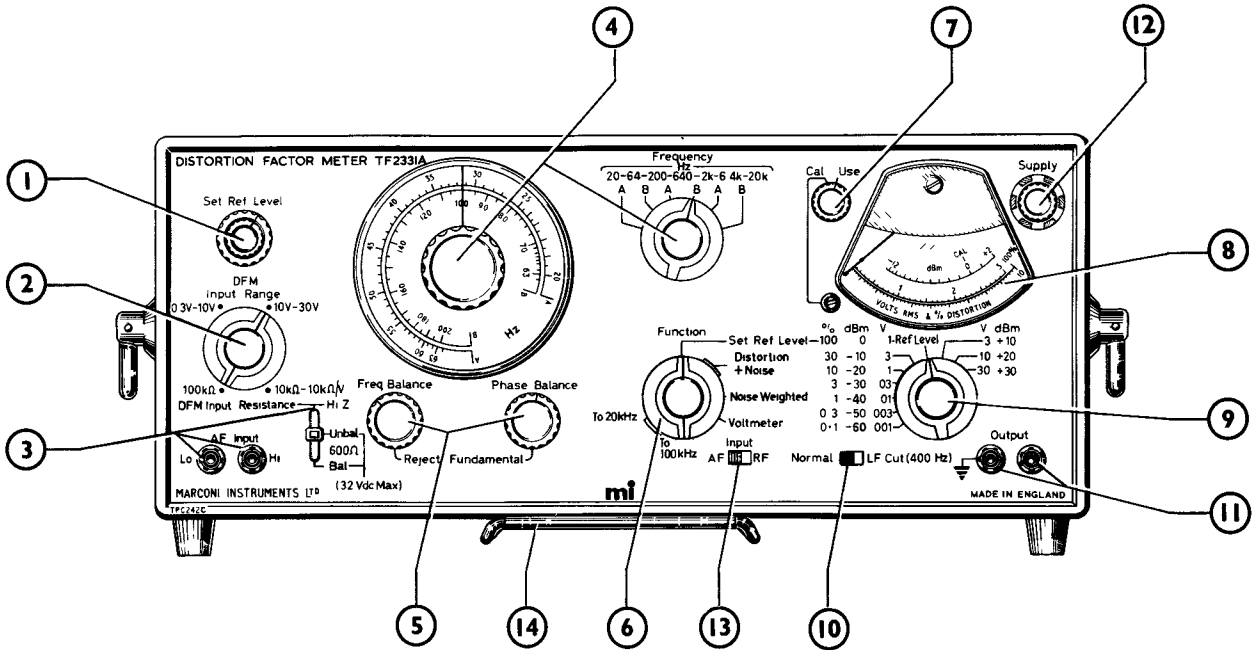

Fig. 2.1 Layout of controls
- ① **SET REF LEVEL controls** : Adjust in conjunction with (8) and (9) to bring meter reading to 100% (or to 0 dB for decibel measurements).
- ② **DFM INPUT RANGE selector** : Set to suit level of total signal at AF INPUT terminals. Other end of pointer shows Hi Z input resistance.
- ③ **AF INPUT terminals and switch** : Switch selects input impedances of 600 Ω , balanced or unbalanced, and Hi Z. For DFM measurements the input resistance at Hi Z is shown by the INPUT RANGE setting. For Voltmeter measurements Hi Z equals about 1 M Ω .
- ④ **FREQUENCY controls** : Set to reject fundamental frequency. Use A or B scale according to switch setting. Fig. 2.1 shows controls set to 1 kHz.
- ⑤ **BALANCE controls** : Adjust in turn for maximum rejection of fundamental. PHASE BALANCE is a high discrimination 10-turn potentiometer.
- ⑥ **FUNCTION selector** : Switches in fundamental rejection filter in positions 2 and 3, weighting network in position 4.
- ⑦ **CAL-USE switch** : To standardize meter for Voltmeter measurements, switch to CAL and adjust preset to bring meter to CAL mark.
- ⑧ **METER** : For DFM measurements reads distortion and/or noise relative to total signal in percentage or decibels. For Voltmeter measurements reads input level in volts, or dBm in 600 Ω .
- ⑨ **METER RANGE selector** : The three right-hand settings are for Voltmeter measurements only
- ⑩ **LF CUT switch** : Attenuates frequencies below 400 Hz to eliminate supply hum components.
- ⑪ **OUTPUT terminals** : Provide a signal from the output of the voltmeter amplifier. At meter full-scale the output is 150 mV at a nominal 1 k Ω source impedance.